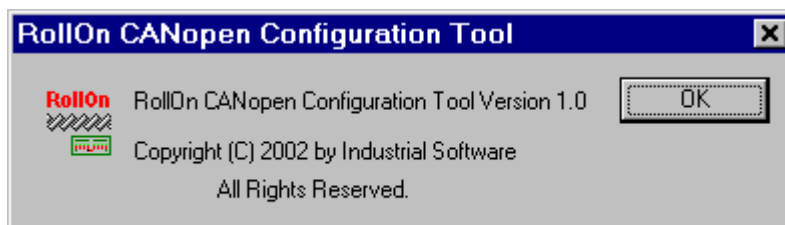

Fig. 4.44
- Click on this **About RollOn...** item to open **CANopen RollOn Configuration Tool** box providing information about the current Version of the "Tool" - Fig. 4.44.